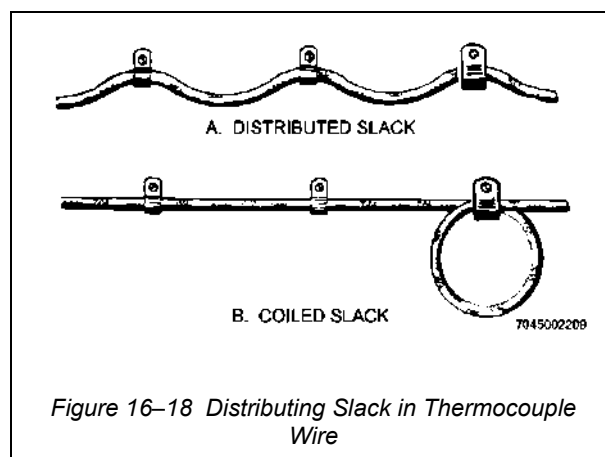

Figure 16-18 Distributing Slack in Thermocouple Wire
42. Thermocouple wire installations require the use of fixed wire lengths to maintain a specified resistance (See Figure 16-18). The slack that results should be distributed by one of the following methods:
- a. Distribute excess slack evenly between wire supports, as shown in Figure 16-18.
- b. If sufficient slack is available, take it up at a support, in the form of a loop of which the diameter is at least 20 times the thickness of the thermocouple wire, as shown in Figure 16-18.